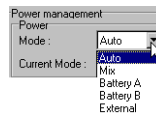

Figure 2-2. Select Power Mode
3. Select the **Power Mode** drop-down list to set the desired power source (Figure 2-2). **Current Mode** displays the current power source.